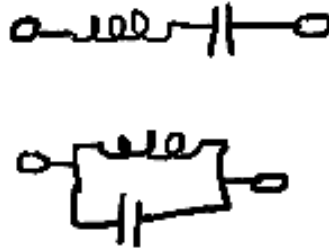

Figure 4: An inductor in series and in parallel with a capacitor
- plot the theoretical impedance versus frequency of a 1  $\mu\text{H}$  inductor in parallel with and in series with a 1  $\mu\text{F}$  capacitor (Figure 4).